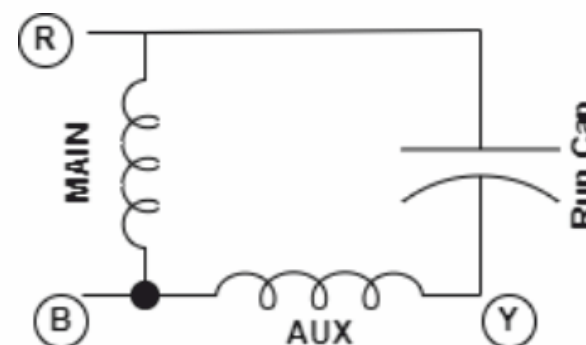

Fig 6.9 Connection diagram for Single phase IM to KUSPC
- Connect KUPSC as per the fig. 6.9